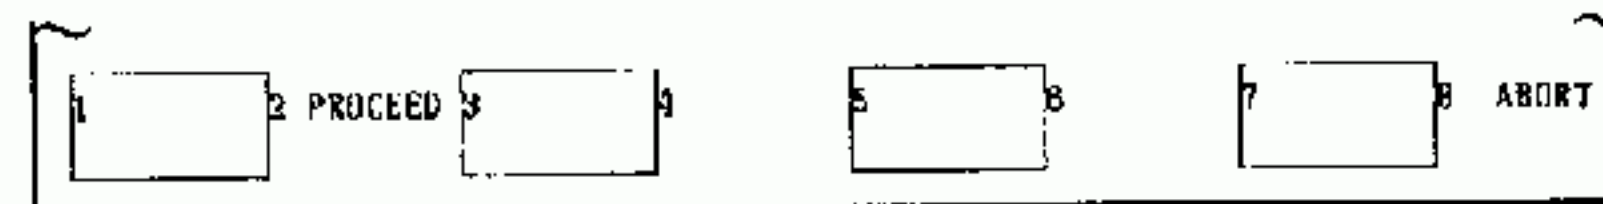

Fig. 5.2.115
4. To stop the loading during execution, depress "STOP" key (Fig. 5.2.113). The labels shown in Fig. 5.2.115 are displayed. Depressing "PROCEED" key causes the loading to resume, and depressing "ABORT" key returns to the display as shown in Fig. 5.2.104.